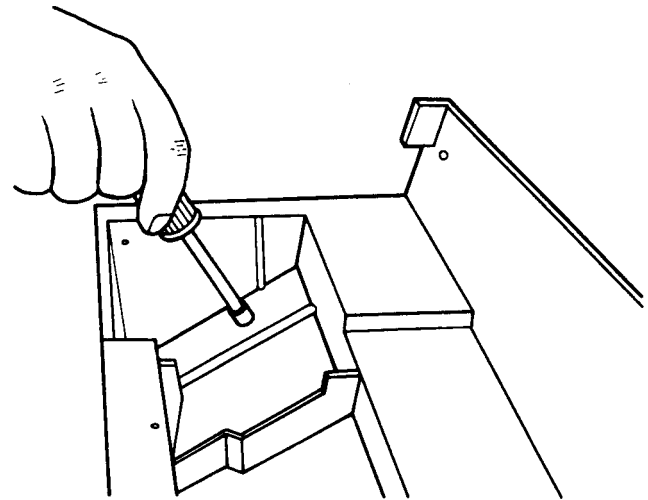

FIGURE 13 — REMOVING THE DUCT ADAPTER
4. Remove the 2 screws holding the duct adapter to the chassis discharge air opening flanges, as shown in Figure 13, and remove the duct adapter.